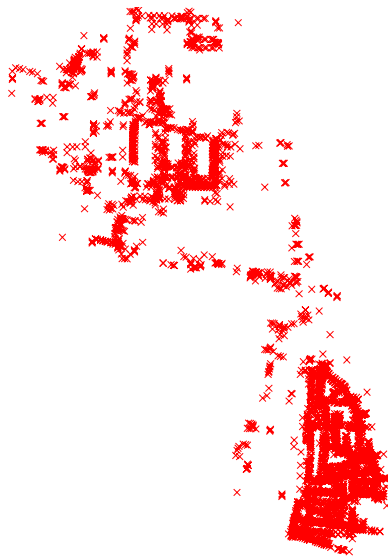

Figure 2-35 The Ground Control Points displayed in the drawing window
6. Choose the **OK** button; the **Import ASCII Points** dialog box is closed and the survey points or the Ground Control Points are displayed in the drawing window, as shown in Figure 2-35.